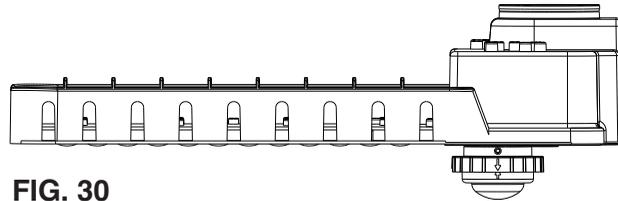

FIG. 30
4. Rotate the outer ring until the arrows align (see FIG. 30).